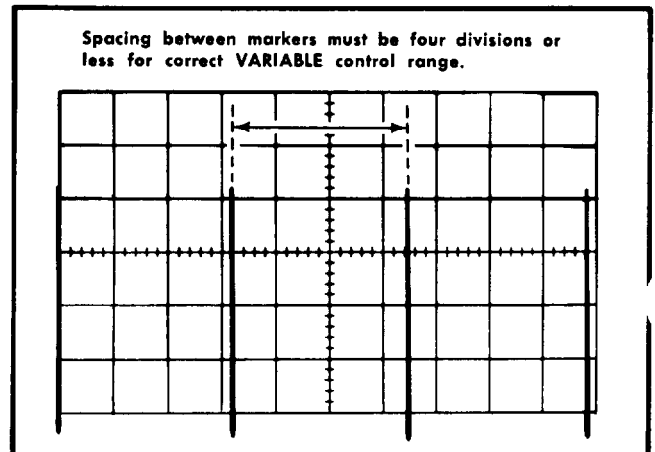

Fig. 6-44. Typical CRT display when checking A and B VARIABLE control range.
- e. CHECK-CRT display for four-division maximum spacing between markers (indicates adequate range for continuously variable sweep rates between the calibrated steps; see Fig. 6-44). UNCAL A OR B light must be on when A VARIABLE control is not in CAL position.
- HORIZ DISPLAY                DELAYED SWEEP (B)
d. CHECK-CRT display for four-division maximum spacing between markers (indicates adequate range for continuously variable sweep rate between the calibrated steps; see Fig. 6-44). UNCAL A OR B light must be on when B TIME/DIV VARIABLE control is not in CAL position.